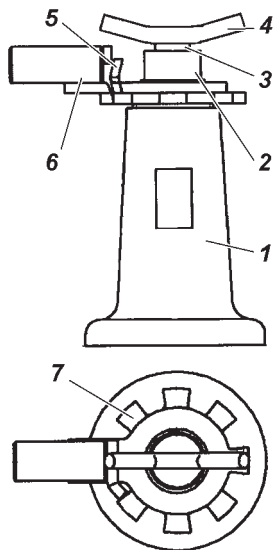

Fig. 10.1. Jack:
**A jack** (Fig. 10.1) is applied for lifting vehicle wheels when servicing or repairing. The carrying capacity of the jack is 2 tons. The highest lifting point is 410 mm.